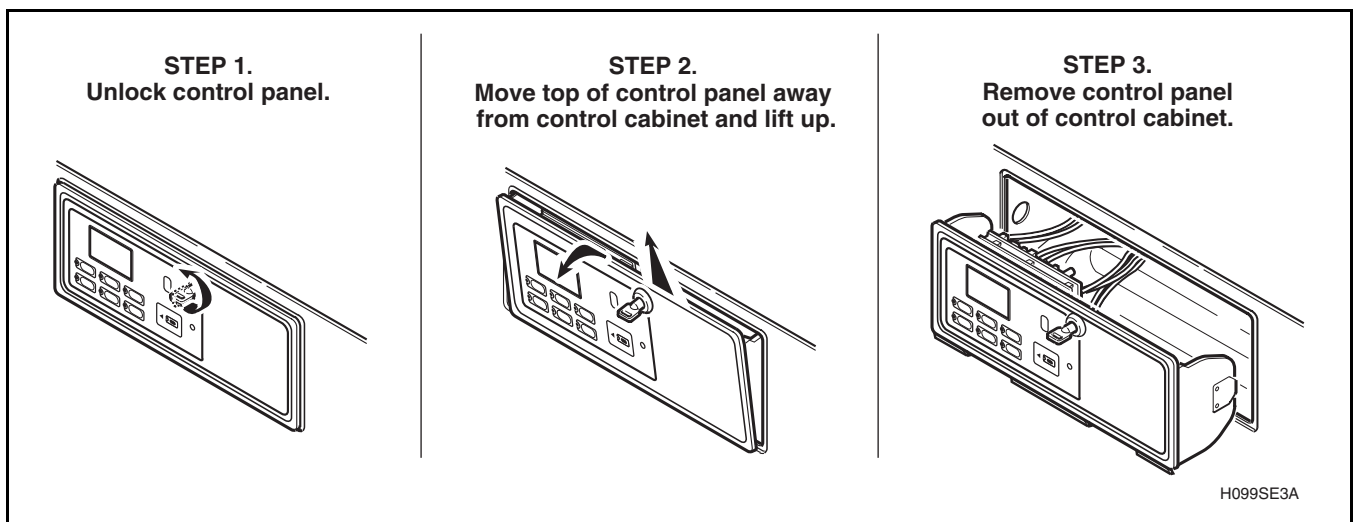

Figure 6
- a. Unlock control panel. Refer to *Figure 6, Step 1*.
- b. Pull top of control panel away from control cabinet far enough to allow lifting control panel up and off the rail support of the control cabinet. Refer to *Figure 6, Step 2*.
- c. Remove control panel away from control cabinet as far as wires permit. Refer to *Figure 6, Step 3*.
- Unlock control panel. Refer to *Figure 6, Step 1*.
- Pull top of control panel away from control cabinet far enough to allow lifting control panel up and off the rail support of the control cabinet. Refer to *Figure 6, Step 2*.
- Remove control panel away from control cabinet as far as wires permit. Refer to *Figure 6, Step 3*.